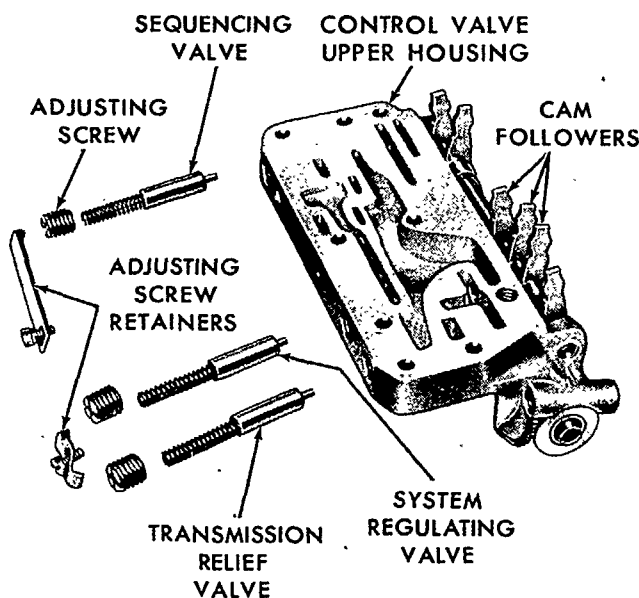

Figure 102
4. Remove two adjusting screw retainers, three adjusting screws, three springs, and the three plunger-type valves from the valve upper body, Figure 102.